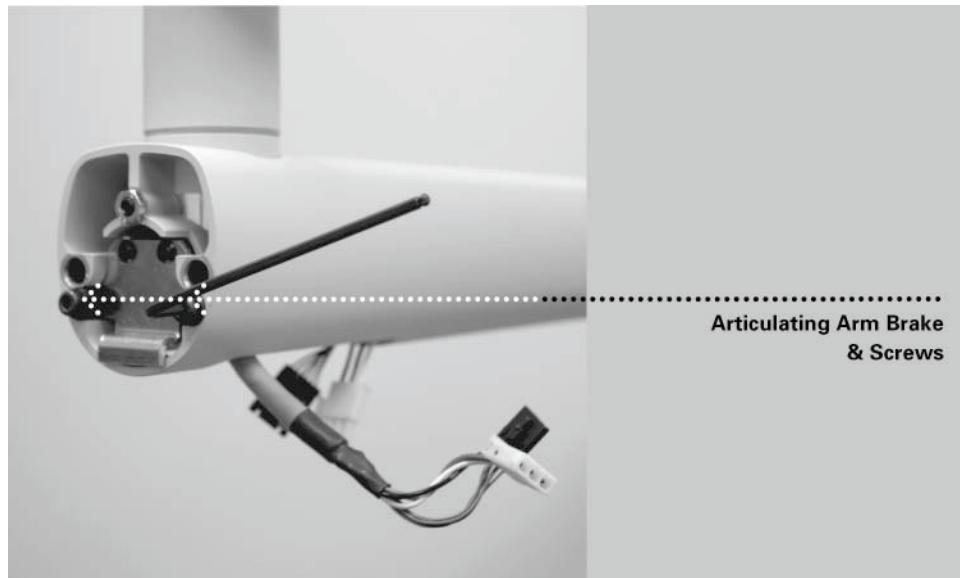

Figure 21
3. Using a 3 mm Allen wrench, install the Articulating Arm brake. Tighten screws until the Articulating Arm brake comes into contact with the shaft of the Articulating Arm. If additional friction is required to prevent drifting, turn the two screws evenly $\sim\frac{1}{4}$ turn at a time until drift stops, as shown in Figure 21.